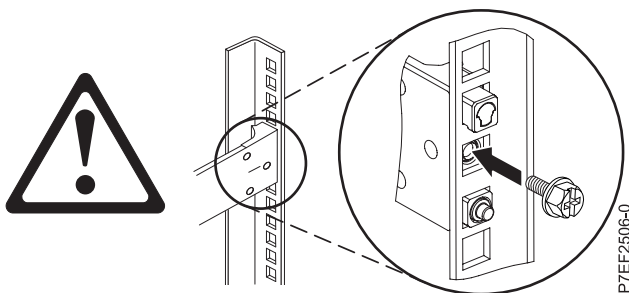

Figure 21. Reinstalling the screw
4. Reinstall the screw that was removed in step 2 on page 21, as shown in Figure 21.